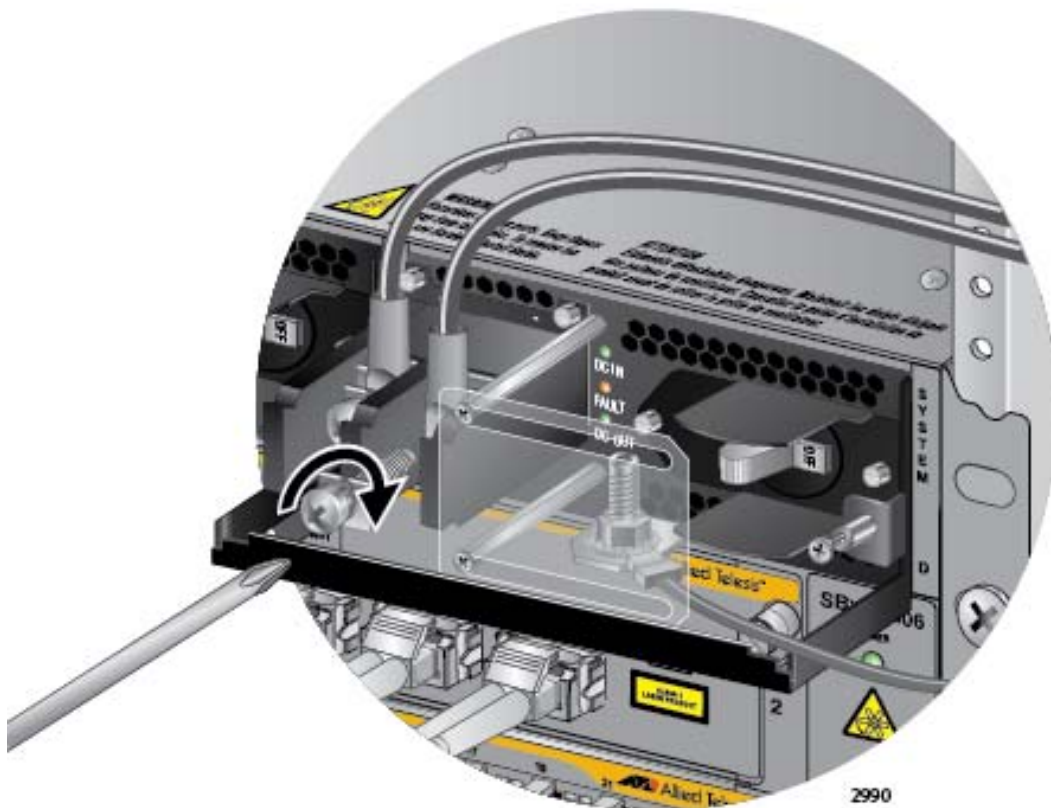

Figure 113. Connecting the Negative (-) Power Wire with a Straight Terminal
7. With a #3 Phillips-head screwdriver, connect the negative (-) power lead wire to the negative terminal on the power supply, with the remaining terminal screw removed in step 5. The negative terminal is on the right. You may attach the terminals with the wires either above or below the terminal block. Figure 113 on page 174 shows the wires above the terminal block.